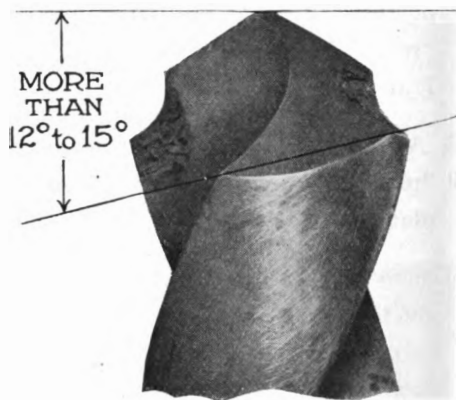

Fig. 11
- 30 If the angle of lip clearance is too great, the edges of the cutting lips will break down (as in Fig. 11) when the drill starts to work, because they will not have sufficient backing to support them — just as a razor edge breaks down if used for cutting tin, because it is too thin and lacks sufficient support to withstand the strain.